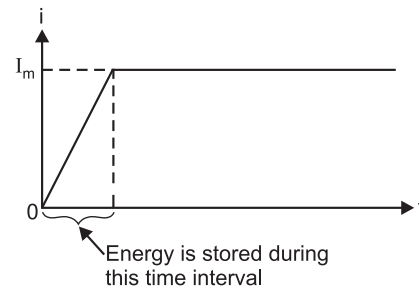

Fig. 9.27
**Alternate method.** In order to determine the amount of energy an inductor stores, we need to determine inductor's current and voltage during the time it is storing energy. Since the inductor stores energy only during the time the current is increasing, we must determine the average current during the time the current is rising. This can be done by referring to Fig. 9.27 which shows the current in an inductor increasing at a constant rate until it reaches the maximum value  $I_m$ . Since the current rises linearly from 0 to  $I_m$ , the average value of current is